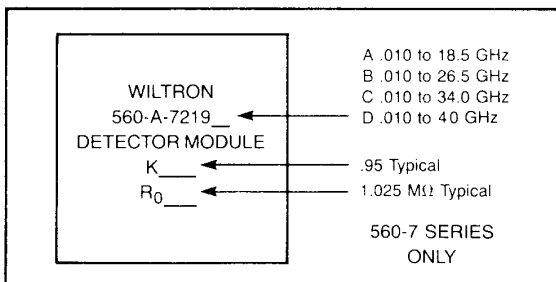

Figure 7-24. Label from Replacement Module Container
- h. Obtain "K" value from label (Figure 7-24) on replacement module's plastic container.